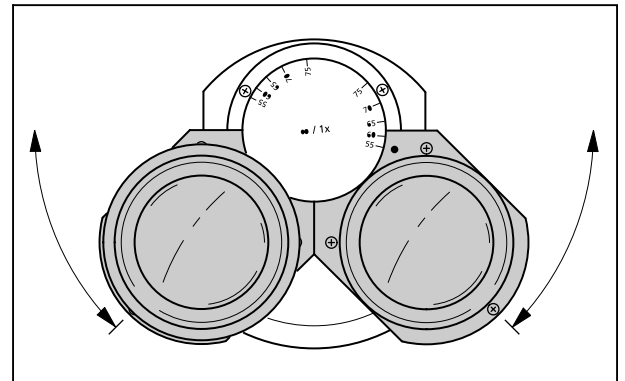

Fig. 3-6 Setting the interpupillary distance on the binocular tube
- To adjust the eyepiece distance to your individual interpupillary distance, swing the eyepiece tubes symmetrically toward or away from one another (Fig. 3-6).